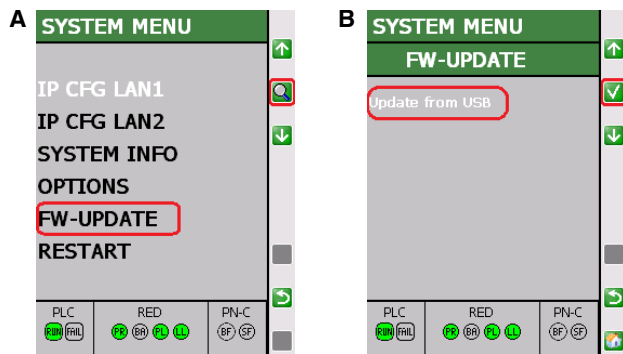

Figure 17 Update from USB (in the figure:
- Call the "FW-UPDATE" menu item in the system menu using the operating keys ((A) in Figure 17).
- Start the firmware update using the key ((B) in Figure 17).